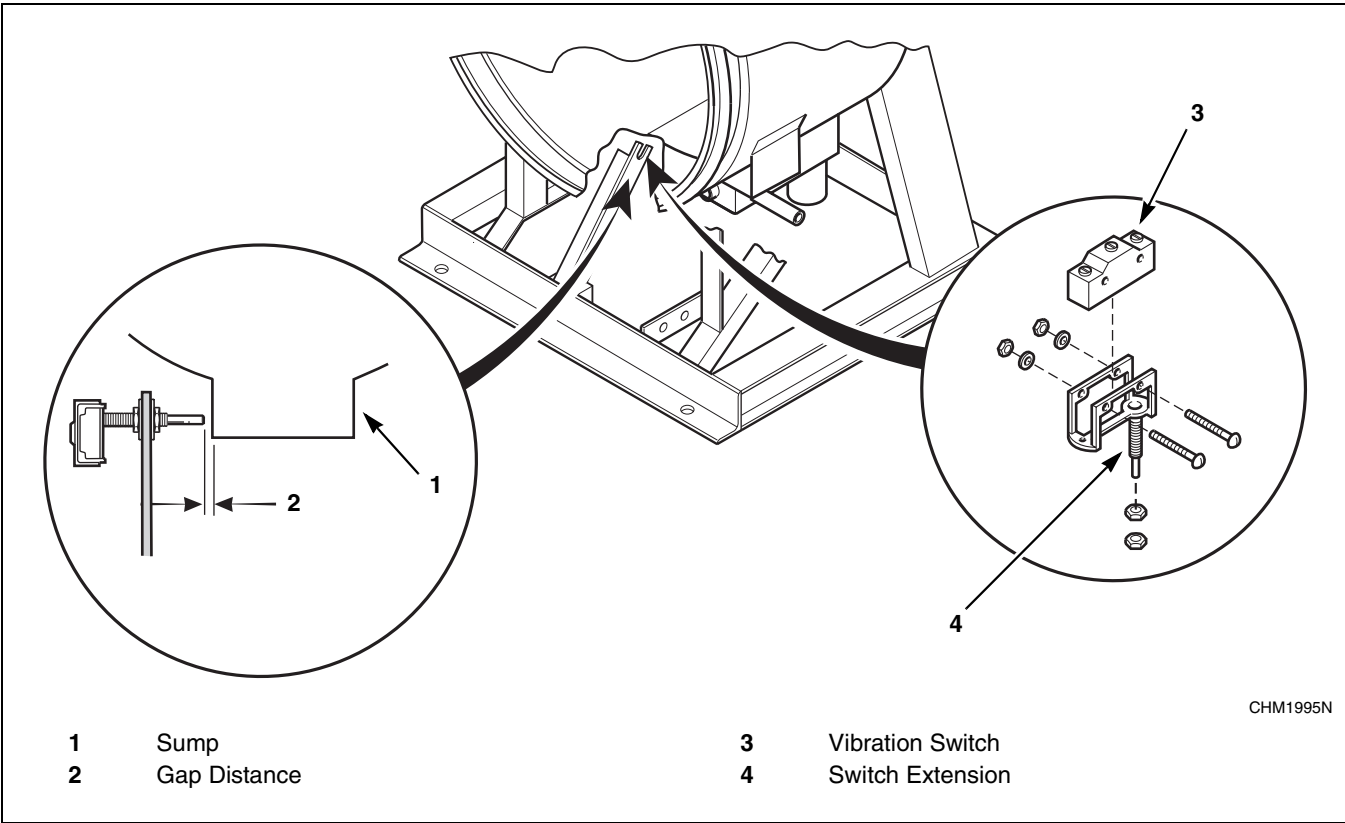

Figure 1
After the machine has been properly installed, the vibration switch gap must be measured before conducting the Control Function Test. Locate the gap found between the vibration switch and the machine structure. Refer to *Figures 1, 2, 3, 4* and *5*. To check the gap setting of the switch, proceed as follows:
1. Remove the front panel on 18-50 models. Remove the rear panel on 60-80 models. Remove the top cover on the 125 model. The switch can be seen inside the bottom right corner of the A-frame, mounted on a bracket. Refer to *Figures 1, 2, 3, 4* and *5*.